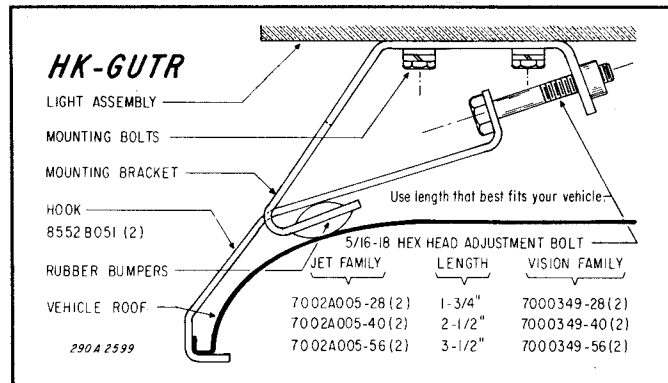

Figure 1.
2. See figure 1. Insert the hook into the opening in the center of the mounting bracket. Install the 1-3/4", 2-1/2" or 3-1/2" stainless steel adjusting bolt (finger tight). Insure that the hook does not interfere with the door gasket or glass. Repeat step on other side of light assembly.